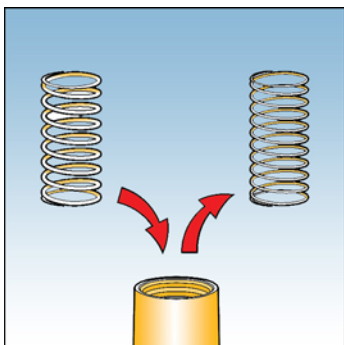

Fig. 9
34. Remove spring and replace with new one. See Fig. 9.
41. Remove spring and replace with new one. See Fig. 9.